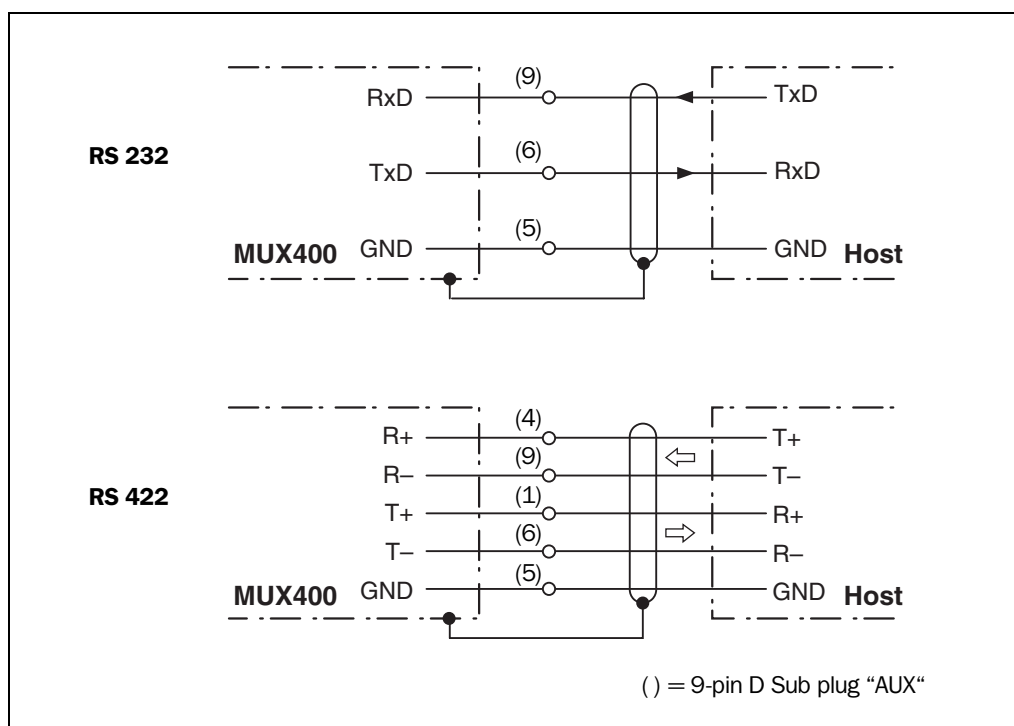

Fig. 5-3: Connecting the host interface
- Connect the host interface as shown in Fig. 5-3.